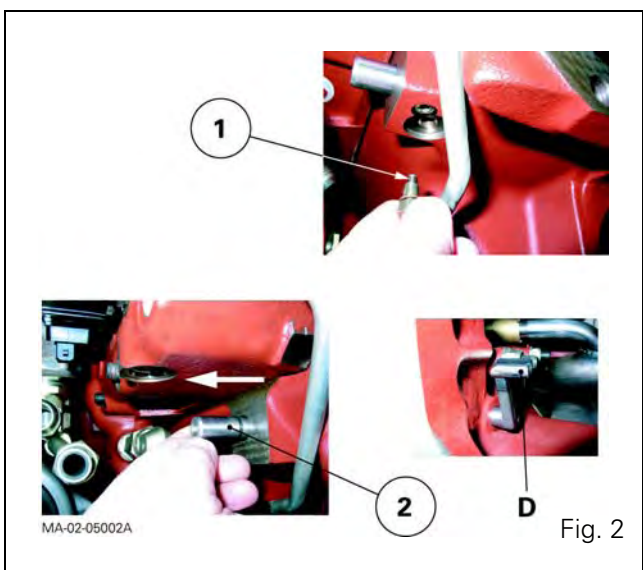
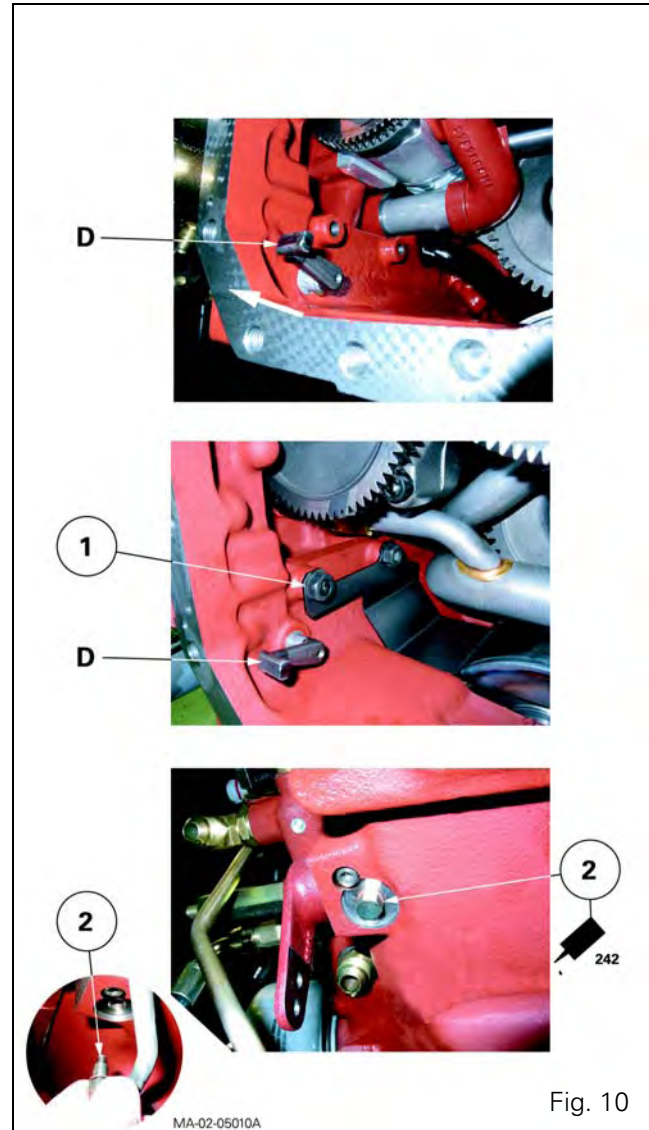

Fig. 2
Fig. 10
Special point (Fig. 2)
The rotation of the control finger "D" of the creeper gears is limited by the presence of the studs and nuts assembly (1) in the centre housing. (Tractors with closed centre hydraulic equipment - Fig. 10).
39. Pull the pin (2) outwards (Fig. 2) and direct the "D" finger towards the front of the centre housing (Fig. 10).
Engage the "D" finger (Fig. 10) in the creeper gear fork and position the seal (2) (Fig. 10) after lightly smearing it with Loctite 242 or equivalent. Moderately tighten the screw.